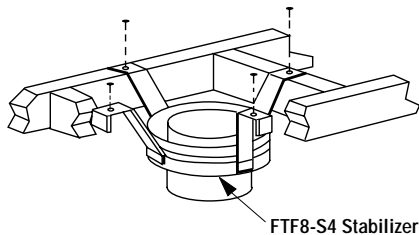

Figure 29
Install the Model FTF8-S4 stabilizer by fitting inner section down into respective section of proceeding flue pipe and locking outer stabilizer section into place over the outer chimney pipe. Position for proper clearance through framed opening and nail straps securely (under tension in "shear") into place on framing. Use 8d nails. Attach successive lengths of chimney pipe directly to stabilizer using same techniques as described in Step 4 (*Figure 29*).
Step 1. Use Offset Chart to determine amount of horizontal offset (A) and height (B) for various chimney section assemblies.
Step 3. Use Elevation Chart as job estimator only. Add necessary firestop spacers and stabilizers as required. Firestop spacers must be used as shown in Figures 23 and 24 and stabilizers as shown in Figure 29.